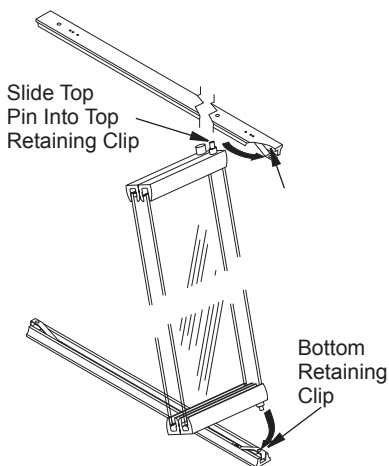

Figure 24 - Installing Doors
1. With bi-fold doors completely folded, insert bottom pivot pin into bottom retaining clip located at far left and far right side of bottom rail. Swing door to vertical position making sure top pins slide into top door rail. Door is installed when top door pin snaps into spring clip (see Figure 24).